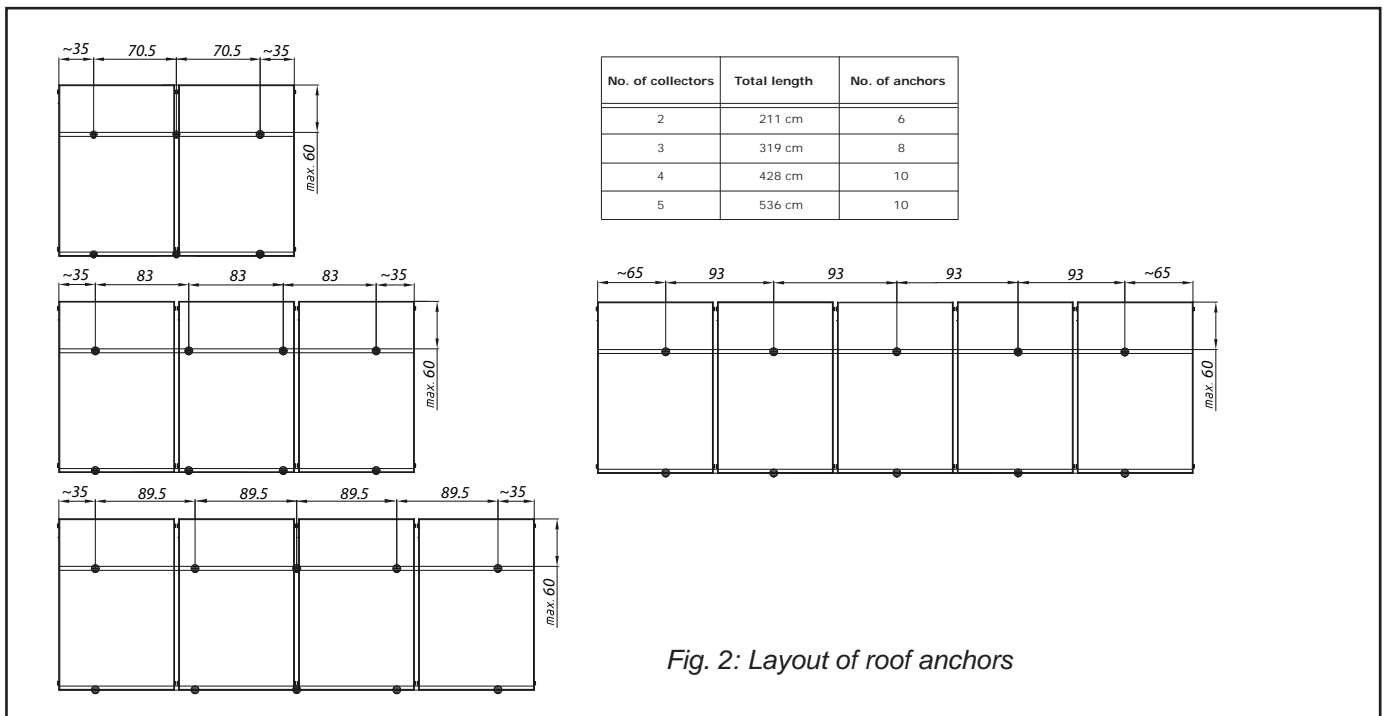

Fig. 2: Layout of roof anchors
- Fix the auxiliary boards to battens so that the distribution of anchors resembles the positions in Fig. 2. At the same time screw the boards so high that the roof
- Hang the roof anchors onto the auxiliary board respecting their distribution shown in Fig. 2.
- Remove roofing in places where anchors shall be fixed (Fig. 5). The distance between anchors is defined in Fig. 2.
- Depending on the number of collectors, measure and calculate the positions for fixing roof anchors (Fig. 2). Such places shall be selected for mounting where anchors can be fixed sufficiently into the roof frame (rafter or similar).